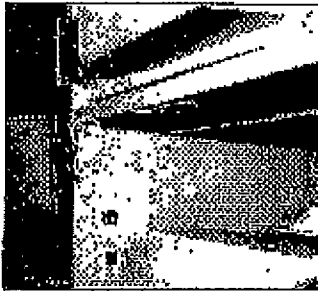
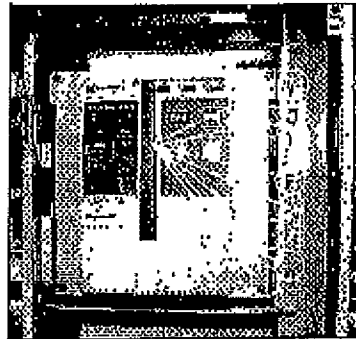
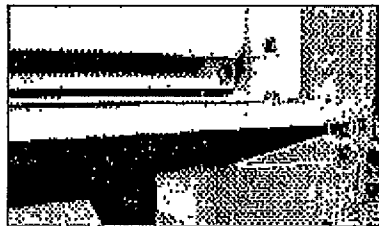

Figure 3-5.10I
Figure 3-5.10J
Figure 3-5.10K
Step 10. Remove the top half of the divider frame located below the breaker cell by removing the two remaining screws holding the left side of the top divider frame (Figure 3-5.10I). Then remove the two screws holding the right side (Figure 3-5.10J). Remove the three screws holding the lower door hinge and the two screws attaching the frame to the bottom of the post (Figure 3-5.10K). Remove the seven screws holding the post (Figure 3-5.10P). Then the divider post can be slid out of the cell giving access to the feed side connections (Figure 3-5.10).